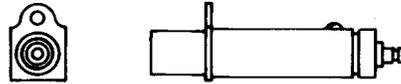

Fig. 28—546A or B
2.24 546A and B: These are coaxial-type jacks (Fig. 28).